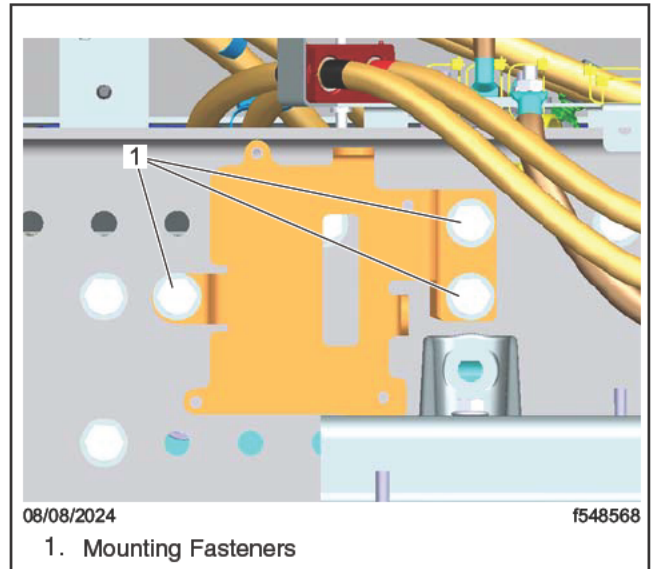

Fig. 3, ETCM Bracket
15. Remove the three mounting fasteners from the ETCM bracket. See Fig. 3.